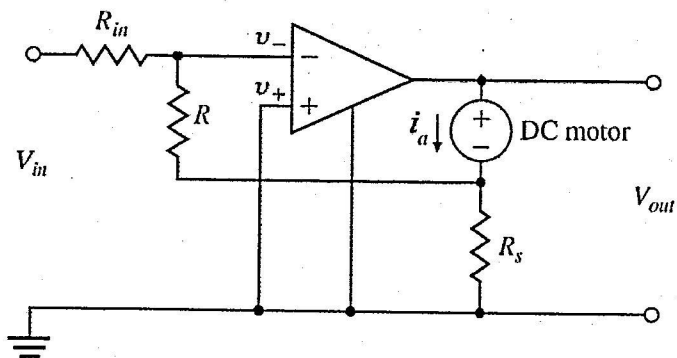

Fig. 2
- Assume that the motor is connected to the op-amp circuitry shown in Fig. 2. The objective is to make the motor current i_a track the input voltage V_{in} , thereby enabling implementation of the current control scheme described in part (b). Derive the transfer function from $V_{in}(s)$ to $i_a(s)$. (7 pts)